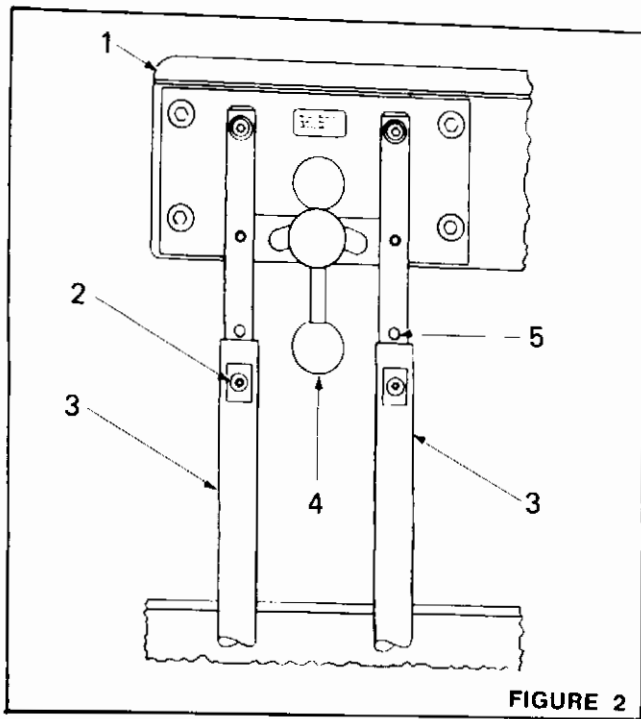

FIGURE 2
2.2.2. To assemble the curved body support on model 556, refer to Figure 2.